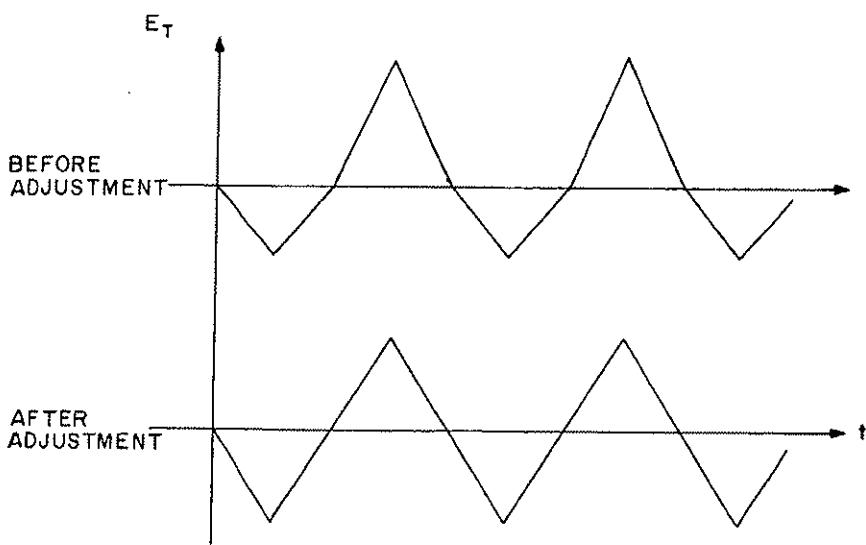

FIG. 5-2 OPTOCOUPLED LINEARIZATION IN MODEL BOP 200-1M.
- 5) Using the Voltage Programming Input terminals, program the unit by using a triangular voltage source (Function Generator) producing a 20V p-p, 250 Hz triangular wave. Observe the output signal on the scope, and adjust R15A Linearization control (See Section II, FIG. 2-1) until the non-linearity in the ramps of the triangular wave disappears (See FIG. 5-2).